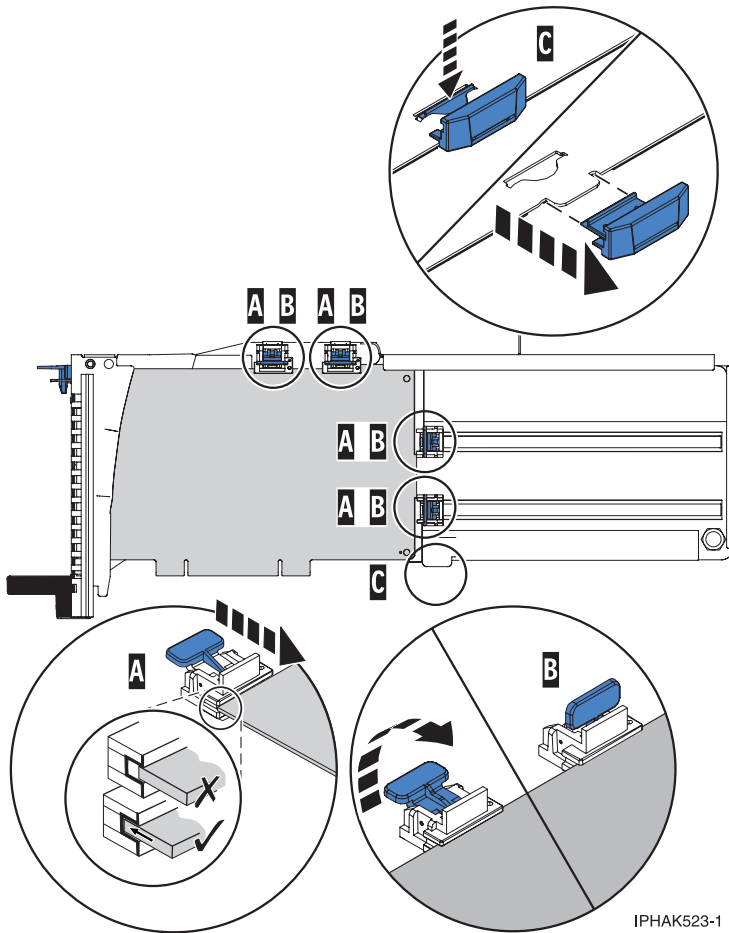

Figure 89. Medium-length adapter in the PCI adapter cassette with the supports in place
- a) Remove the adapter stabilizer (C). See Figure 89 on page 96.
- b) Place and lock the retainers (B).
- c) Ensure the adapter edge is seated in each retainer groove (A). If the shape of the adapter or the presence of a connector will not allow the adapter edge to be seated into the retainer groove, ensure the retainer is still locked firmly against that edge or connector.